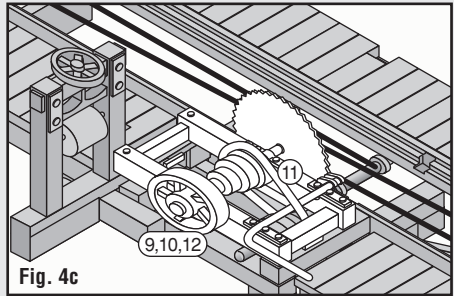

Fig. 4c
- Glue Husk Assembly (9,10,12) onto top edge of Mill Track Assembly, aligning tabs and notches for proper placement. Then, glue Small Belt (11) to saw pulleys (Fig. 4c). **NOTE:** There will be a gap between the ends of the Belt.